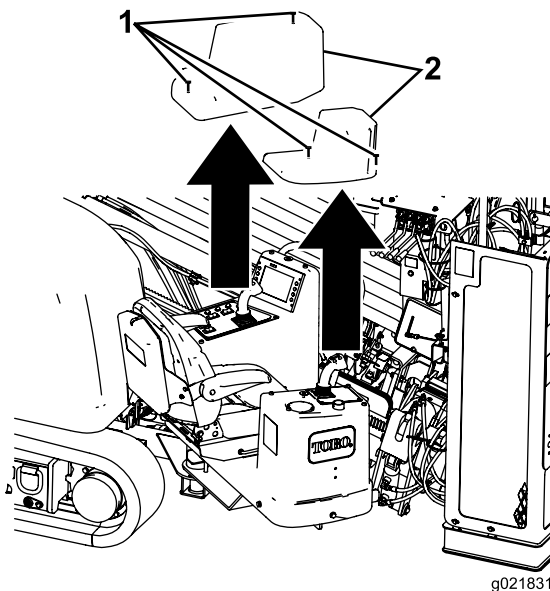

Figure 77
3. Loosen the 4 screws that secure the covers over the operator consoles and remove the covers (Figure 77).